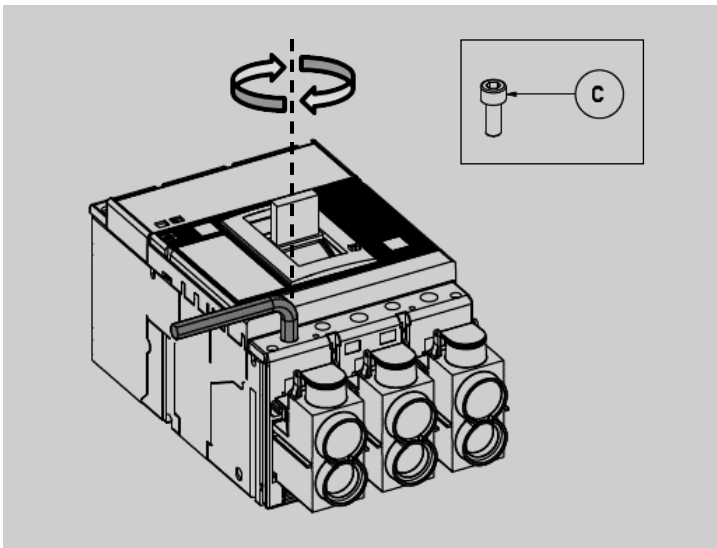

Figure 8: Assemble the Item C
- Step 7: Tighten Item C by torque value 319 lb-in as shown in Figure 8